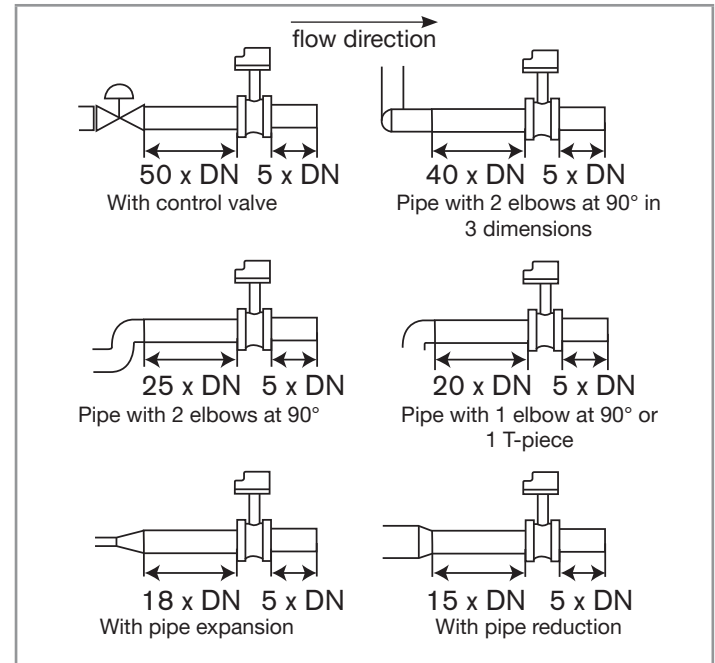

Fig. 4: Upstream and downstream distances depending on the design of the pipes
- the upstream and downstream distances are respected according to the design of the pipes, see Fig. 4 and norm EN ISO 5167-1.
- the upstream and downstream distances are respected according to the design of the pipes, see Fig. 4, chapter 7.2.1 and norm EN ISO 5167-1.